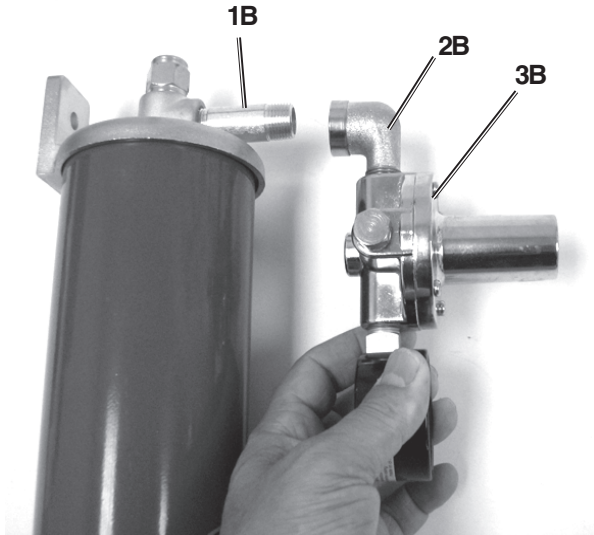

Figure 2
1. Next thread the Air Regulator (3B) onto the Nipple (1B). See Figure 2 below.